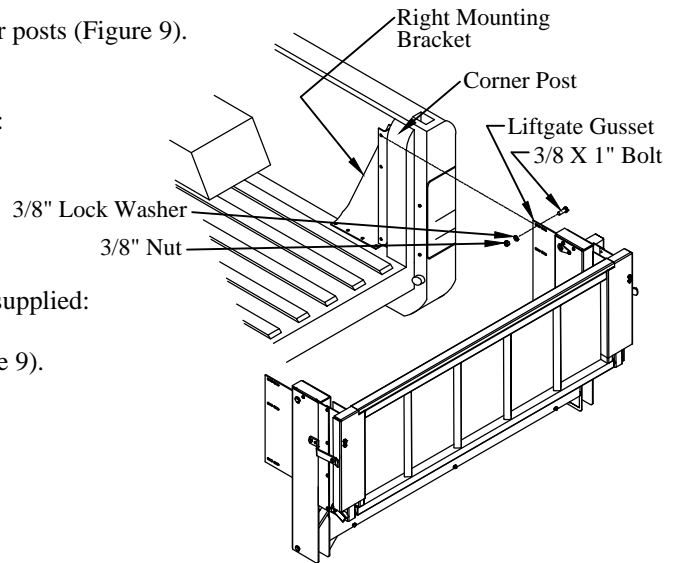

Figure 9: Mounting bracket and liftgate.
1. **Position** the mounting brackets into the truck bed in front of the corner posts (Figure 9).
- (3) 3/8"x1" hex head bolts on the bracket-side (Figure 9).
- (3) 3/8" lock washers, and (3) 3/8" nuts on the gusset-side (Figure 9).